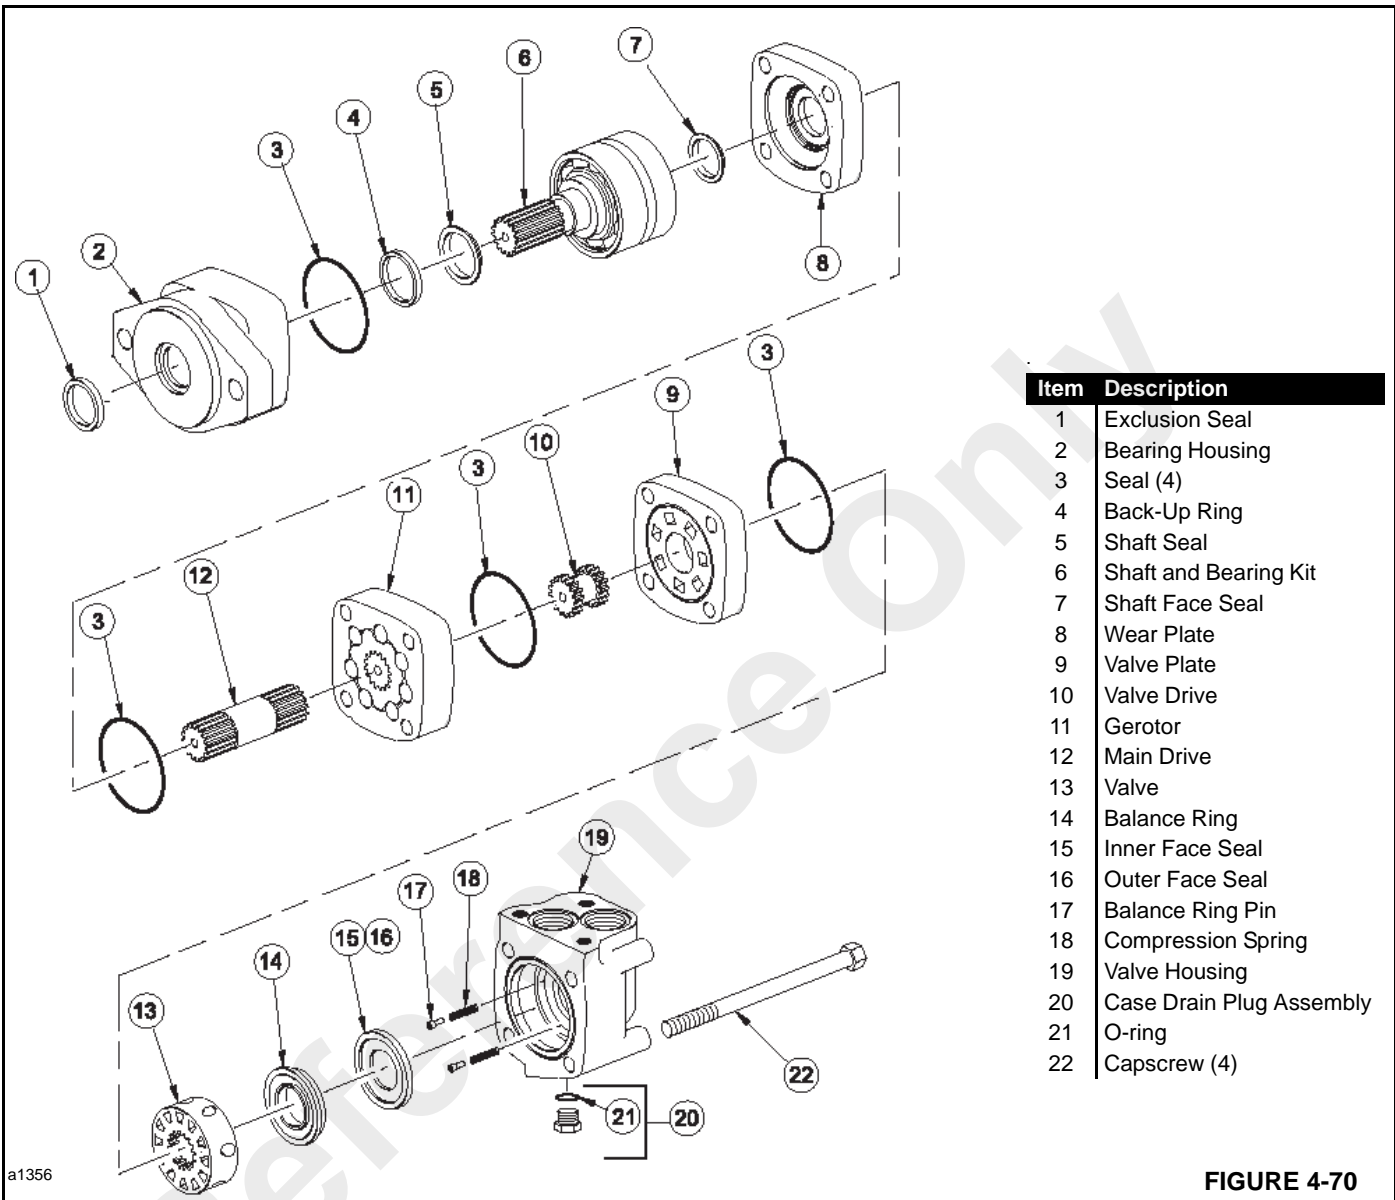

FIGURE 4-70
2. Remove four cap screws (22, Figure 4-70) from the motor.
3. Lift valve housing (19) straight up. If done carefully the pins (17), springs (18) and balance ring assembly (14) and valve (13) will remain in valve plate (9).
4. Carefully remove seal (3) from valve housing (19).
5. Remove case drain plug (20) with O-ring from the valve housing.
6. Remove two pins (17) and springs (18) from valve housing (19).
7. Remove balance ring assembly (14).
1. Use a press to install new exclusion seal (1, Figure 4-70) into outer bore of bearing housing (2). The lip of the seal must face outward. See Figure 4-71. If a press is not available, use a plastic or rubber hammer, being careful not to damage or cock the seal in the bore.